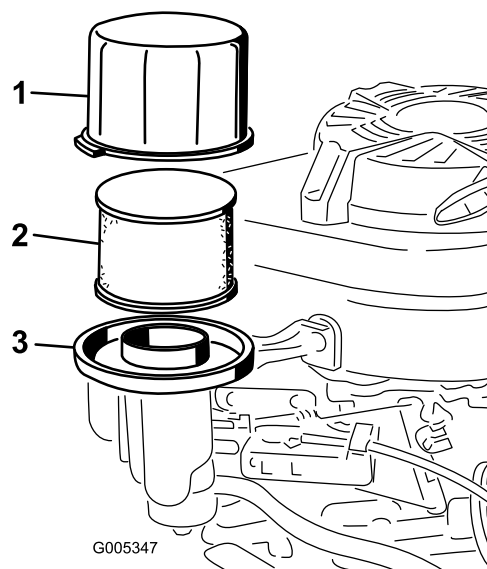

Figure 22
2. Remove the cover and clean it thoroughly (Figure 22).
3. Remove the foam pre-filter and the paper-air filter from the air-filter base (Figure 22).